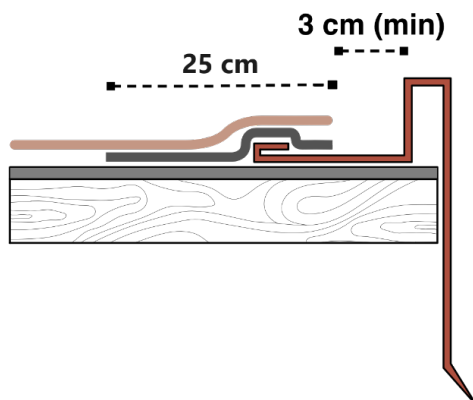

Fig. 15 - Lateral flashing detail
- Install the lateral flashings above the membrane applied to the roof. Apply a band of bituminous membrane, about 25 cm wide, to overlap the flashing. Proceed with the normal installation of the shingles by torch, as will be described below, above the lateral flashing. Leave a space of about 3cm between the end of the shingles and the edge of the lateral flashing. - Fig. 15.